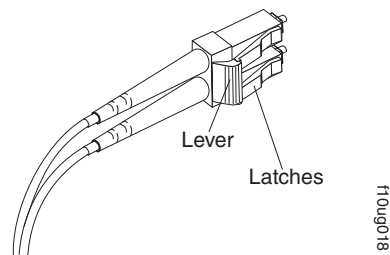

Figure 34. LC-LC fibre-channel cable lever and latches
1. On the end of the cable that connects into the LC connector end of the LC-SC cable adapter, press down and hold the lever to release the latches. Figure 34 shows the location of the lever and latches.